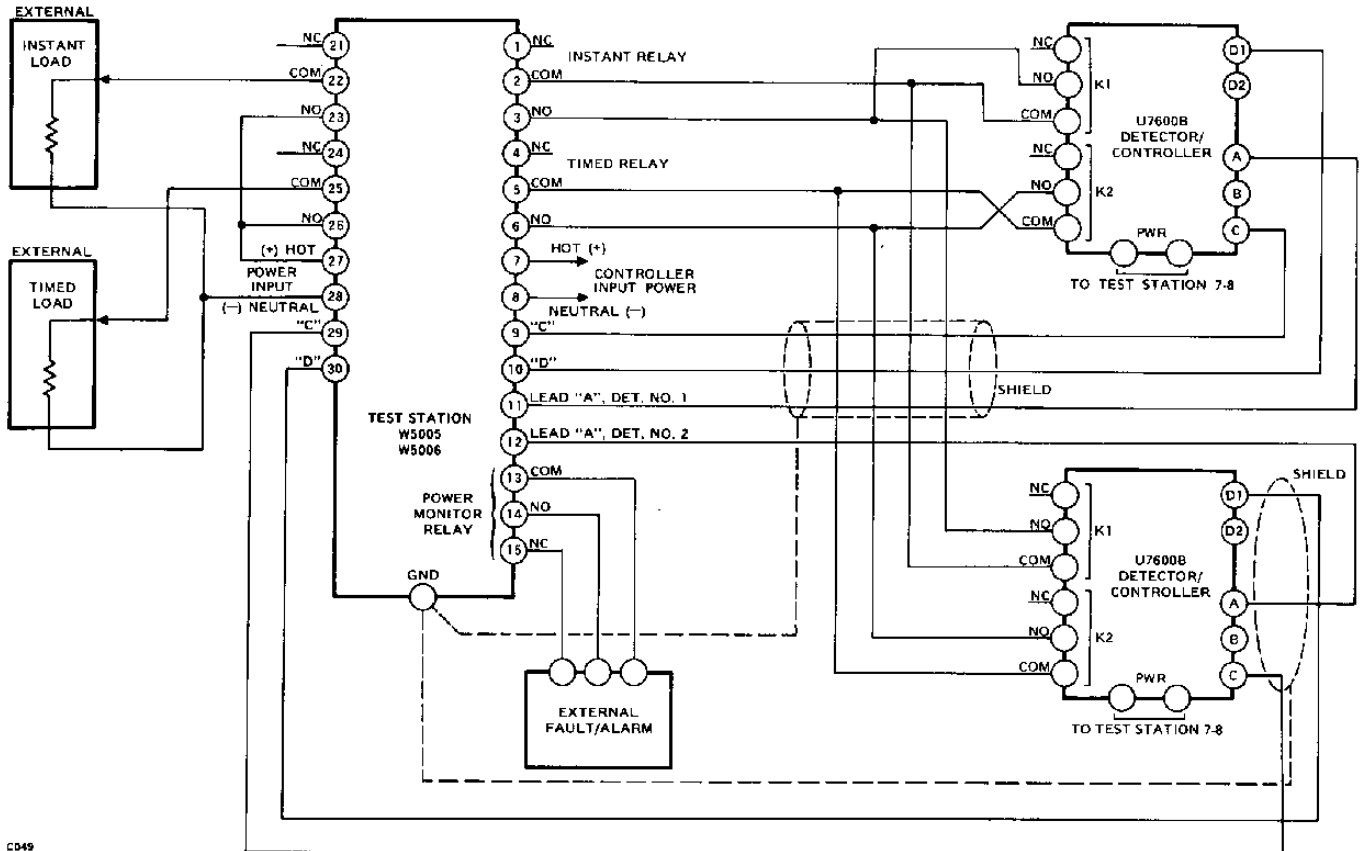
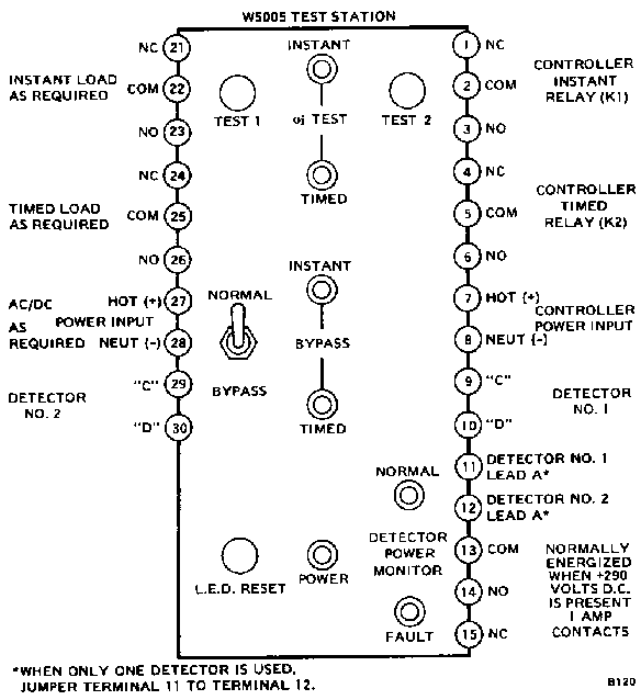

Figure 15—Normally Unenergized Load Circuit in the U7600 Detector/Controllers, Either U7600 May Activate the Loads.
Figure 16—W5005 Test Station.
The installation diagram of Figure 15 shows both the U7600 instant and timed relays operating their respective loads from the Normally Open (NO) contacts. The Normally Closed (NC) contacts are available for other applications. When either U7600 "sees" sufficient UV, the instant relay energizes, closing the NO contacts to activate an external alarm. After the U7600 "sees" sufficient UV for a pre-determined amount of time, the timed relay energizes closing the NO contacts to activate external fire protection equipment. The power monitor in the W5005/W5006 Test Station continuously monitors both U7600's for an electronic failure. If a failure occurs in either U7600, the power monitor relay in the Test Station de-energizes, turning on an external "fault" alarm. A bypass switch at the W5005/W5006 Test Station allows testing both U7600's without energizing the external loads. See Figure 16 for wiring diagram for the W5005/W5006.